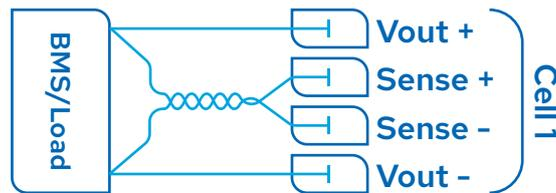

Figure 6: Wiring for Remote Sense
- Make wiring connections according to the needs of the device to be tested. Use Figure 5 and Table 3 as a reference before making connections. Figure 6 is an example for wiring.
The connection order shown in Figure 6 is not in line with the connector signal assignment in DE3000. It is given for illustration purposes.